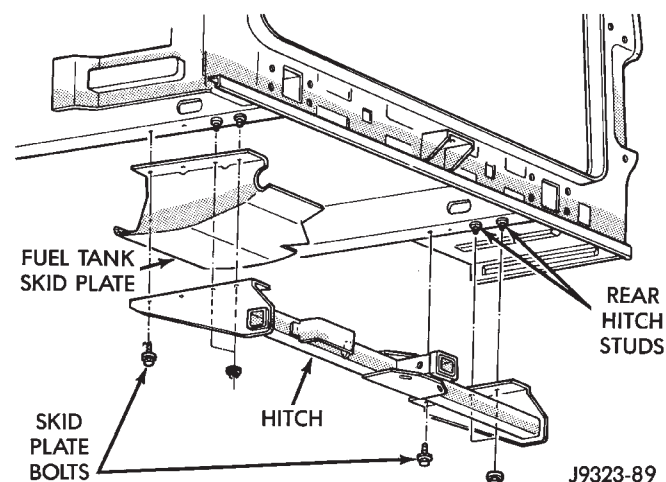

Fig. 2 Equalizer Type Hitch
- (1) If necessary, remove trailer tow wire harness connector from hitch.
- (2) Support hitch.
- (3) Remove nuts that attach the towing tube to frame sills (Fig. 2).
- (4) Remove bolts from plate bracket and vehicle rear crossmember (Fig. 2). Lower support and hitch.
- (1) Place hitch on a lifting device. Raise, position hitch at proper location (Fig. 2) and support it.
- (2) Loosely install nuts that attach towing tube to vehicle frame sills (Fig. 2).
- (3) Position plate bracket and install attaching bolts through vehicle rear crossmember (Fig. 2).
- (4) Tighten all attaching bolts/nuts.
- (5) Remove support and, if removed, attach trailer wire harness connector to hitch (Fig. 2).